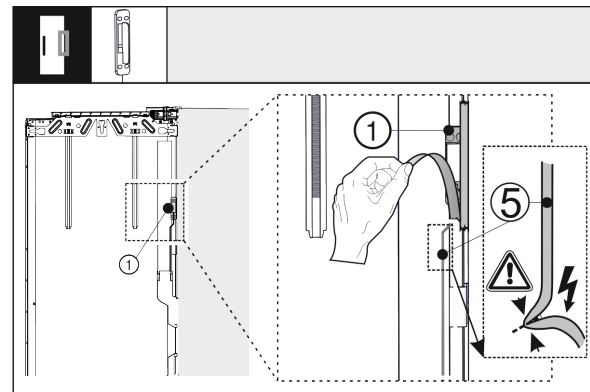

Fig. 40
- ▶ Loosen the knocking sensor Fig. 40 (1) from the outside door. Do not damage the connection cable Fig. 40 (5).